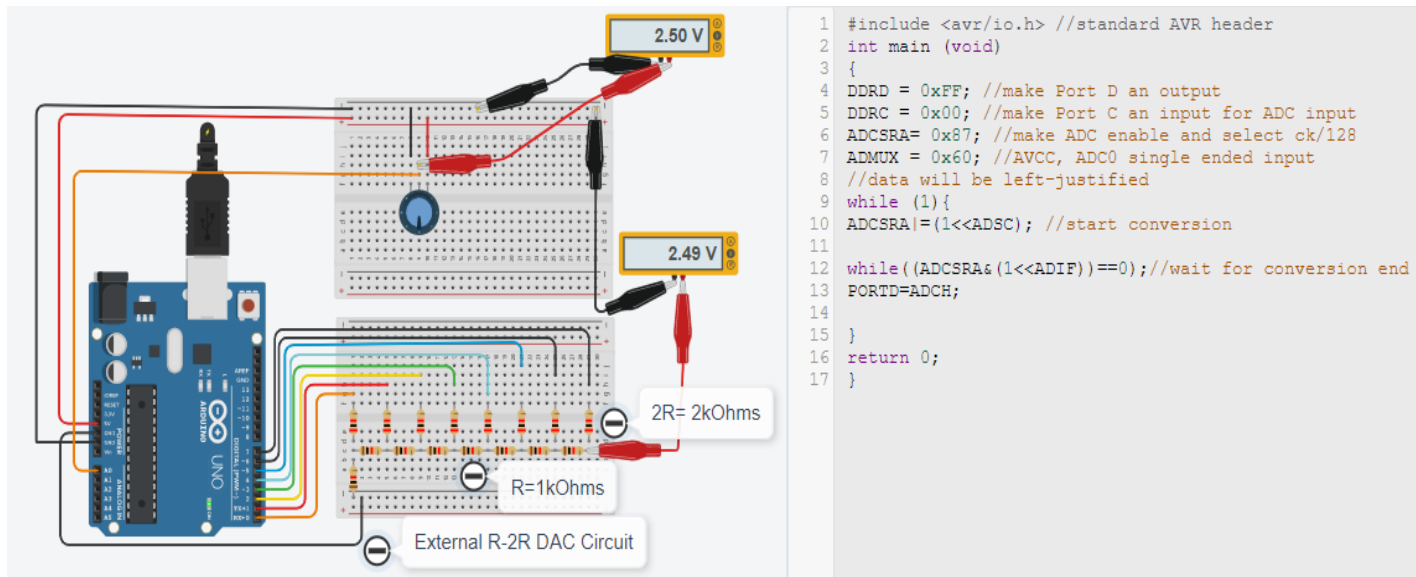

Figure 11: Sample Representation of Task 1 with R-2R DAC
3. Measure the analog input given through potentiometer and the analog output reproduced by the DAC. Compare both and verify the ADC and DAC. This is shown in Figure 11 using R-2R circuit.